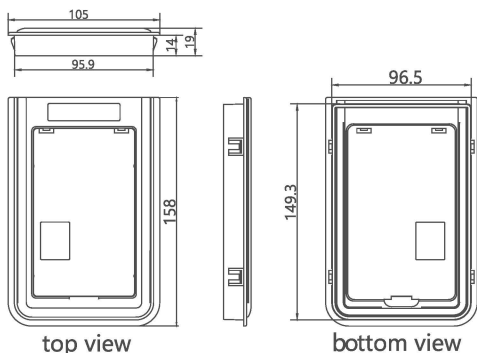

Figure 6.2a) Schematic diagram of supporting board
6.4.3 Figure 6.2a): Schematic diagram of supporting board. The operation panel can be installed in the supporting board.